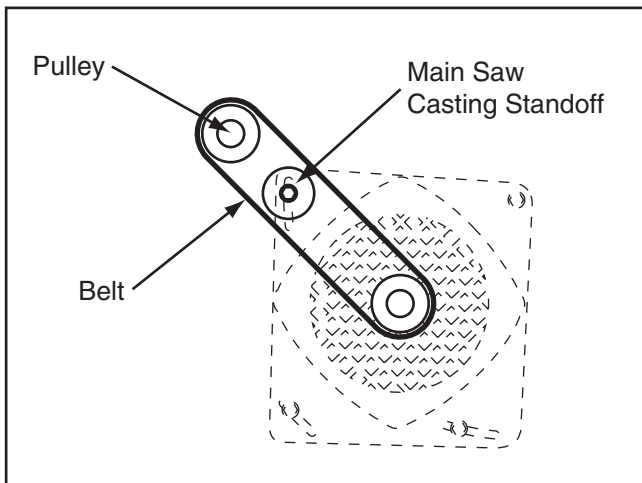

Figure 91. Proper belt routing.
8. Place the new belt over the motor pulley, making sure the belt goes around the main saw casting standoff illustrated in **Figure 91**.